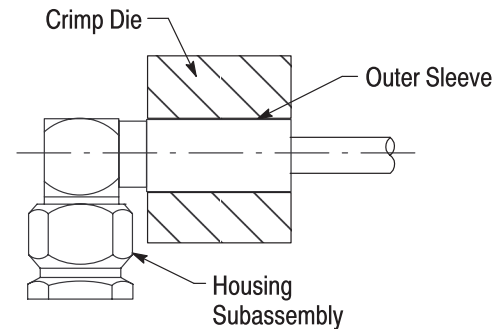

Figure 5
6. Slide the outer sleeve over the cable braid. Holding the cable in position, crimp the outer sleeve. See Figure 5. Trim excess braid strands.